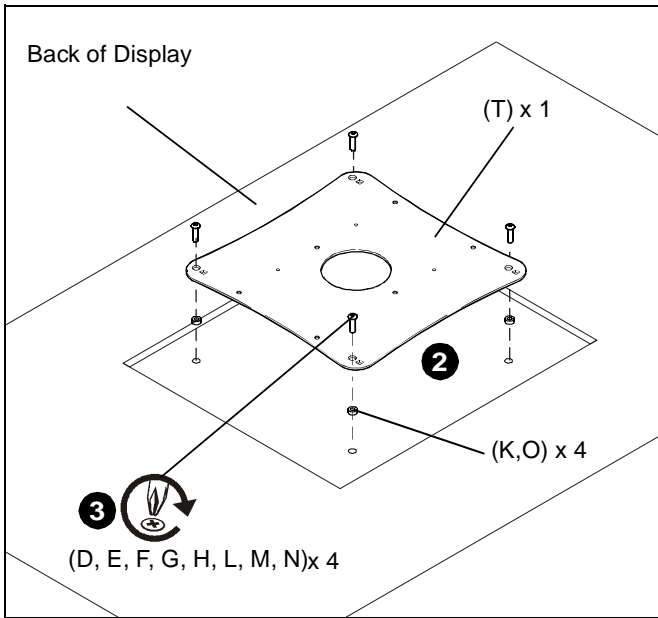

Figure 8
2. Place .125" spacers (K) over each mounting hole in back of display. (See Figure 8)
3. Attach interface bracket (T) to display using four screws (D, E, F, G, H, L, M, N). (See Figure 8)
**NOTE:** If the display has a recessed mounting surface, spacers (K or O) between the display and interface bracket (T) may be required. (See Figure 8)